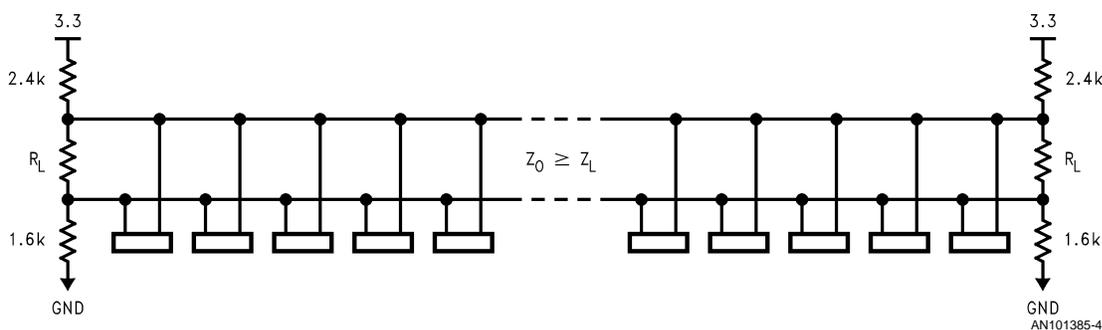
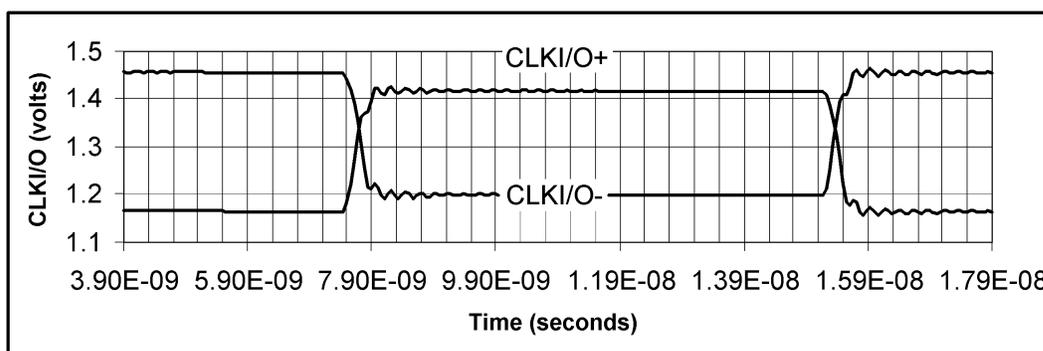

FIGURE 5. Typical Failsafe Biasing Scheme
FIGURE 6. Backplane Termination and Failsafe Biasing
boosted in the application (for example, if it has CMOS rail-to-rail signals swinging on adjacent pins in connectors). If this is the case, a pull-up and pull-down resistor should also be used at the site of the terminations as shown in *Figure 5*. These resistors will typically be in the 1 kΩ to 2 kΩ range. A slight positive bias conditions the line when all drivers are off. These resistors should not be reduced too much in value because this will load down the driver and distort the signal swing as shown in *Figure 6*.
*Figure 6* simulation configuration consists of a 1.2 kΩ resistor connected from the driver True output to  $V_{CC}$ , a 0.8 kΩ resistor connected from driver Inverted output to Ground, and a 37.5Ω resistor connected between the True and Inverted driver outputs. This lumped load represents the biasing scheme shown in *Figure 5*.